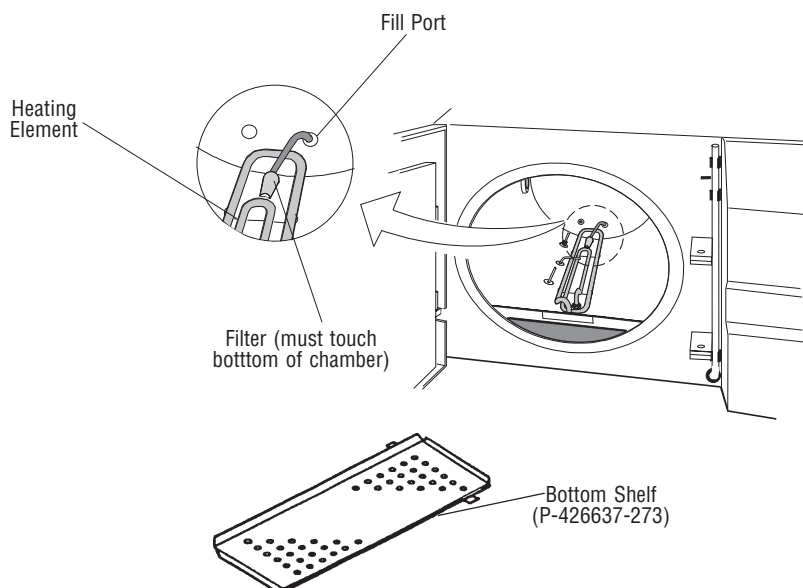

**Figure 3-6
3. Carefully remove bottom shelf from inside the chamber and verify that the filter is connected to the fill port and is resting on the bottom of the chamber (Figure 3-6).